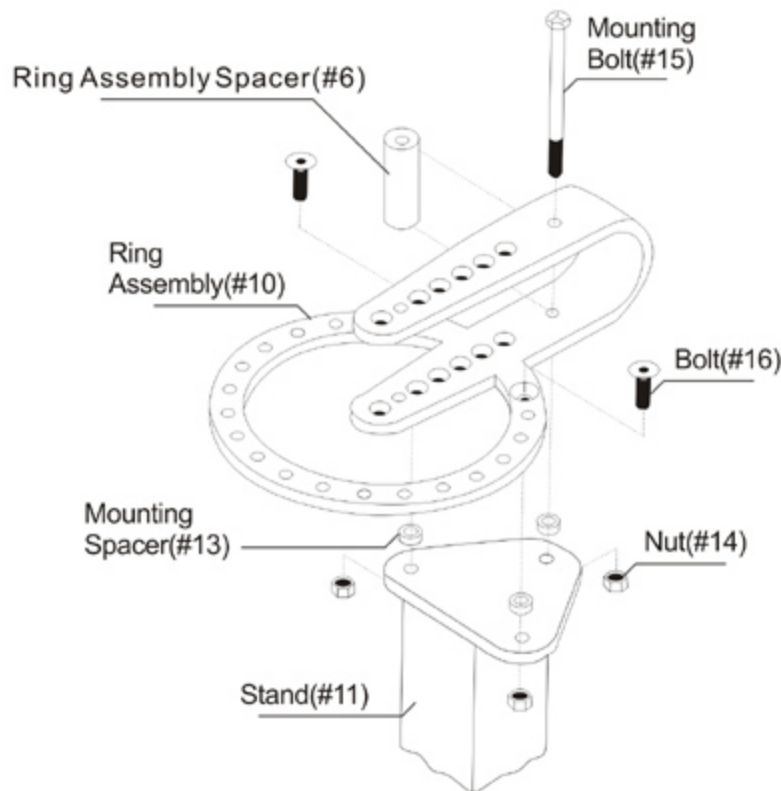

Figure1- Assembly
- Step 2: Place the three MOUNTING SPACERS(#13) over the three holes on the top of the STAND as shown in Figure 1.